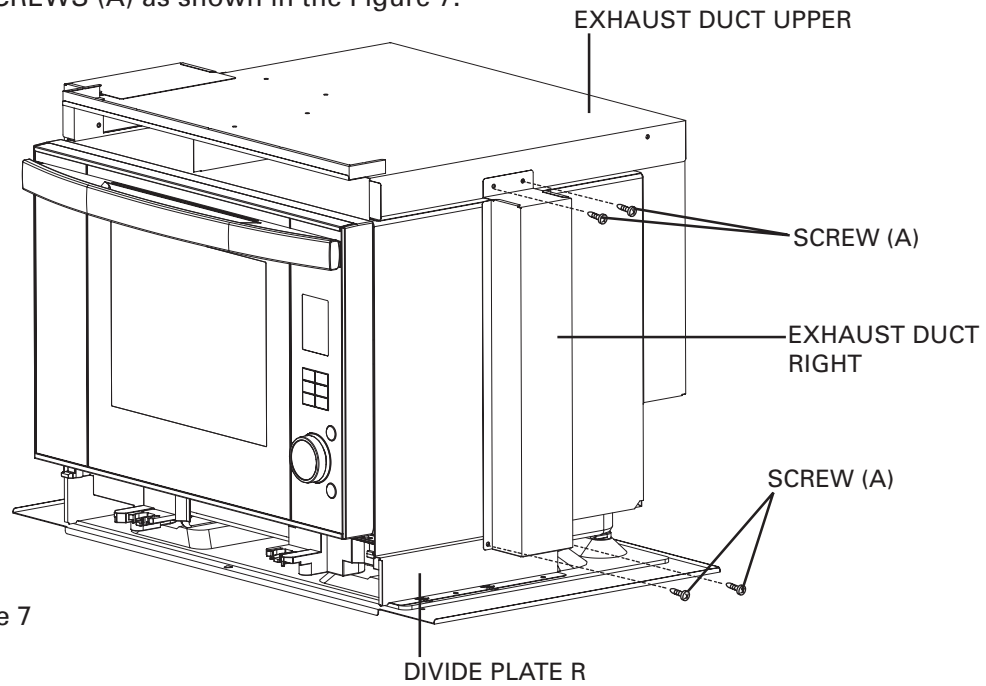

Figure 7
- ① Attach EXHAUST DUCT RIGHT to the right wall of the oven.
- ② Tighten with 4 SCREWS (A) as shown in the Figure 7.